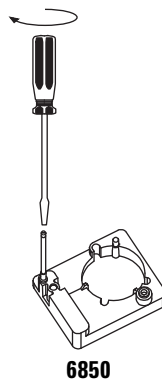

Figure 17 Installing the mounting post (6850 GCs)
- **6850 Series GC.** Install into the inlet mounting bracket. Loosen the inlet screws, install the post and tighten the screws. The post must be turned all the way down (Figure 17).